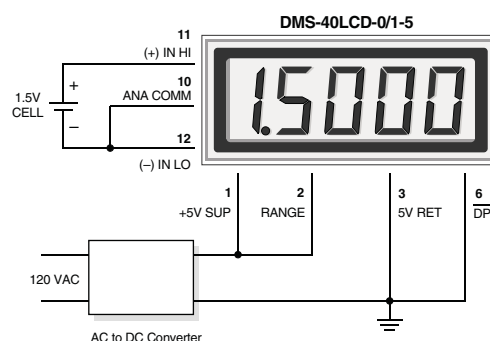
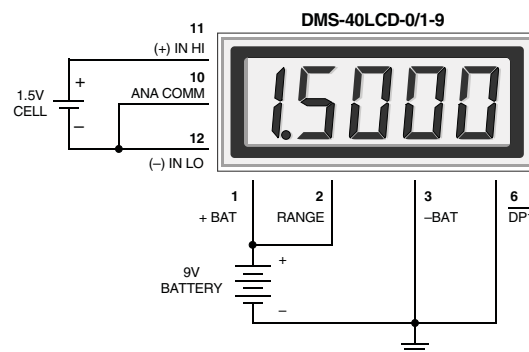

Figure 5. Floating Input Measurements (5V-Powered Models)
Figure 6. Floating Input Measurements (9V-Powered Models)
- 4. Floating Signal Source Measurements:** Floating signals can be measured using the circuits shown in Figures 5 and 6. Figure 5 uses a 5V-powered meter. Figure 6 uses a 9V-powered meter. Both figures show a DMS-40LCD-0/1 with pin 2 tied to pin 1 yielding a $\pm 2V$ input range. Connecting pin 10 (ANALOG COMMON) to (-) INPUT LO (pin 12) provides the reference point for the meter's input.